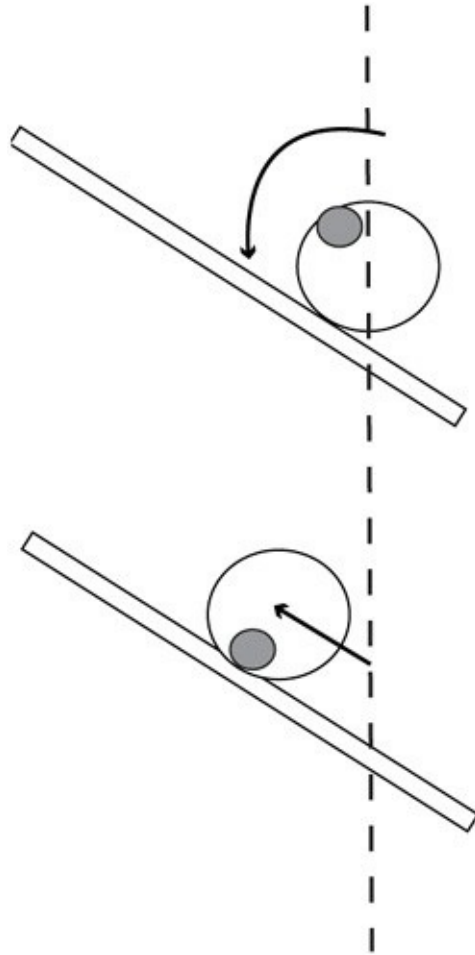

Figure 62-1 *Gravity creates a torque on the can causing it to roll uphill.*
3. Place the can on the incline with the mass on the uphill side of the can's centerline. See Figure 62-1.